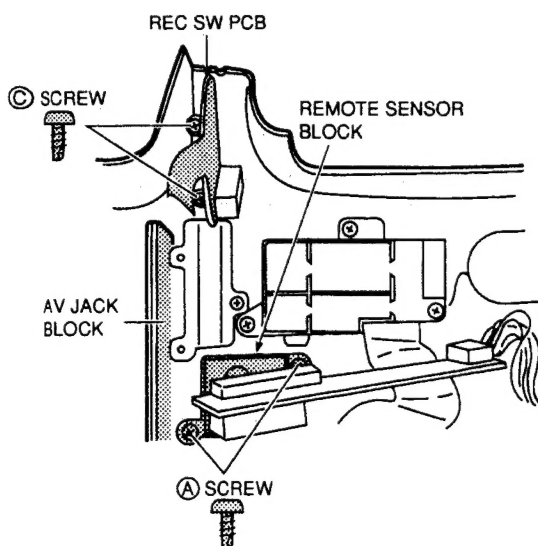

Fig.1-14
4. Remove the two ③ screws which retain the REC SWITCH PCB as shown in Fig.1-14 then remove the AV JACK BLOCK carefully.